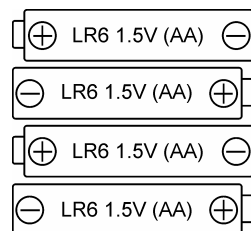

Figure 3
- Insert 4 durable alkaline AA batteries into the Device with taking care of the right polarity (see Figure 3)